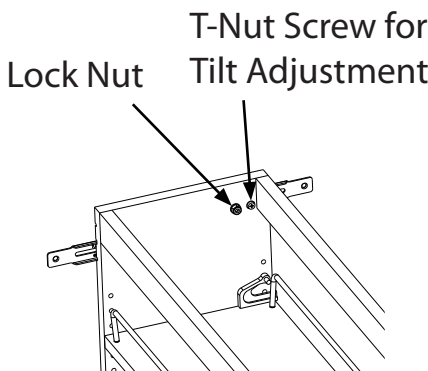

Fig 4
- 1) Loosen the (4) lock nuts (3/8" wrench) inside the front wall of the unit. (See Fig 4)
- 3) Use the (4) #6 x ½" flat head screws provided to attach the door to the pullout unit.